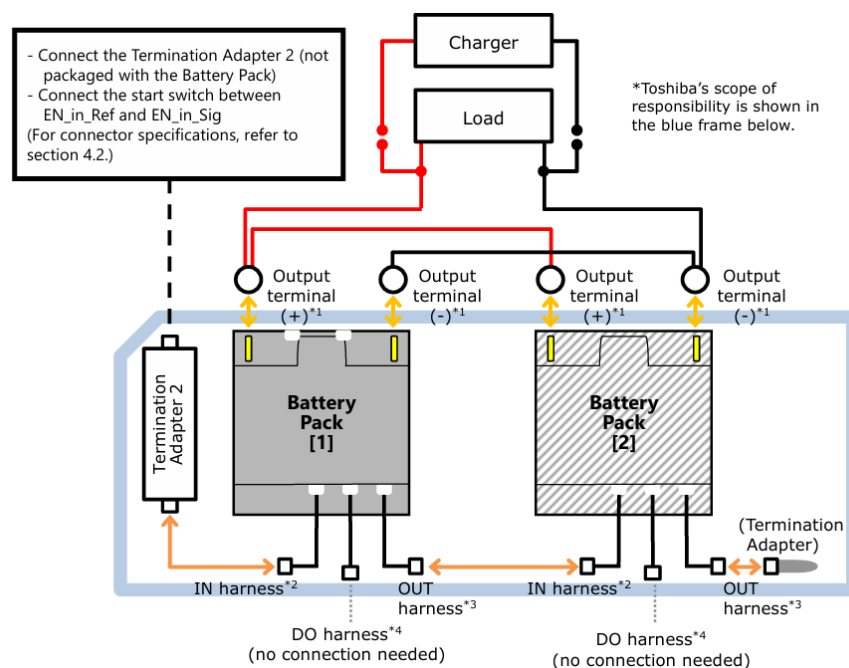

Figure 3.9. Current Battery Wiring set up
In the current wiring configuration, the battery pack's CAN communication and Digital Output (DO) signals are not connected because these features are not used by the current system implementation. As shown in Figure 3.9, a Termination Adapter is installed on the Toshiba SCiB™ battery pack. Although this adapter is not part of the active power wiring, its installation is specified in the Toshiba SCiB™ Industrial Pack (24 V) instruction manual. Please do not remove this component, as it may be required for proper battery operation even when the CAN communication interface is not utilized